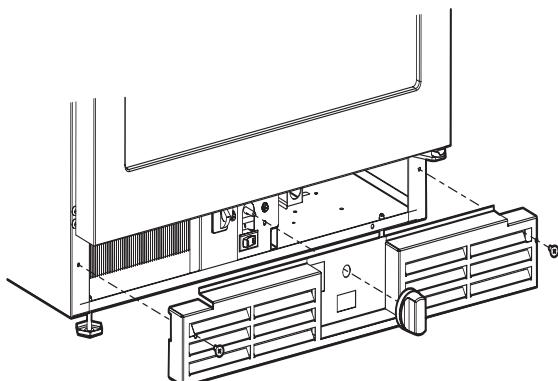

Figure 25
- 1 Remove the control knob by grasping the knob and pulling straight off (see **Figure 25**).